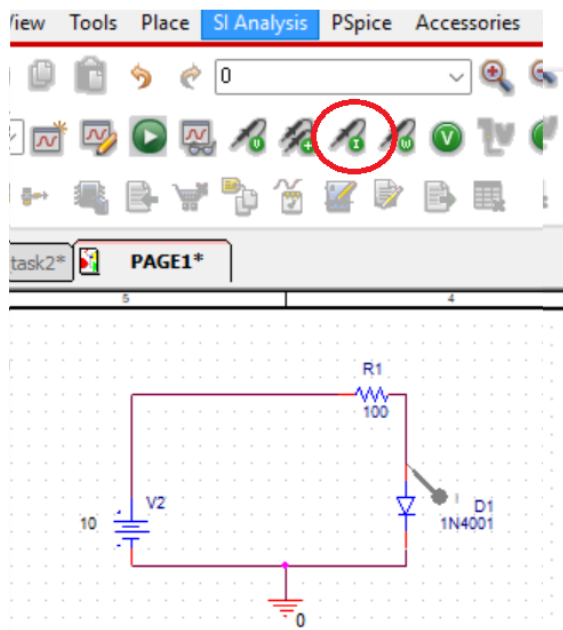

Figure 1.8a: Current Marker on the diode D1
- Select a current marker from PSpice tool-bar and place it on the leg of an element (example first leg of Diode D1) where you want to monitor the amount of current flow. The complete schematic with marker placed on the diode is shown in Figure 1.8a.